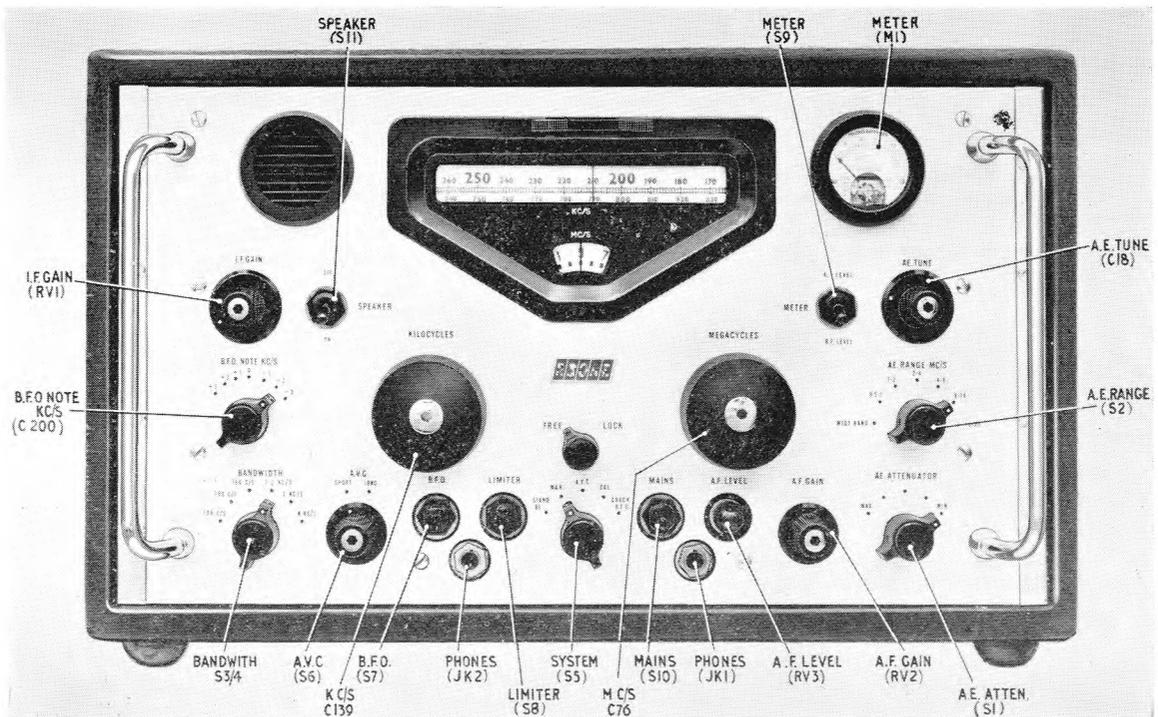

Fig. 3. Receiver-front panel
13. Operate the receiver controls (*fig. 3*) in the following sequence :—